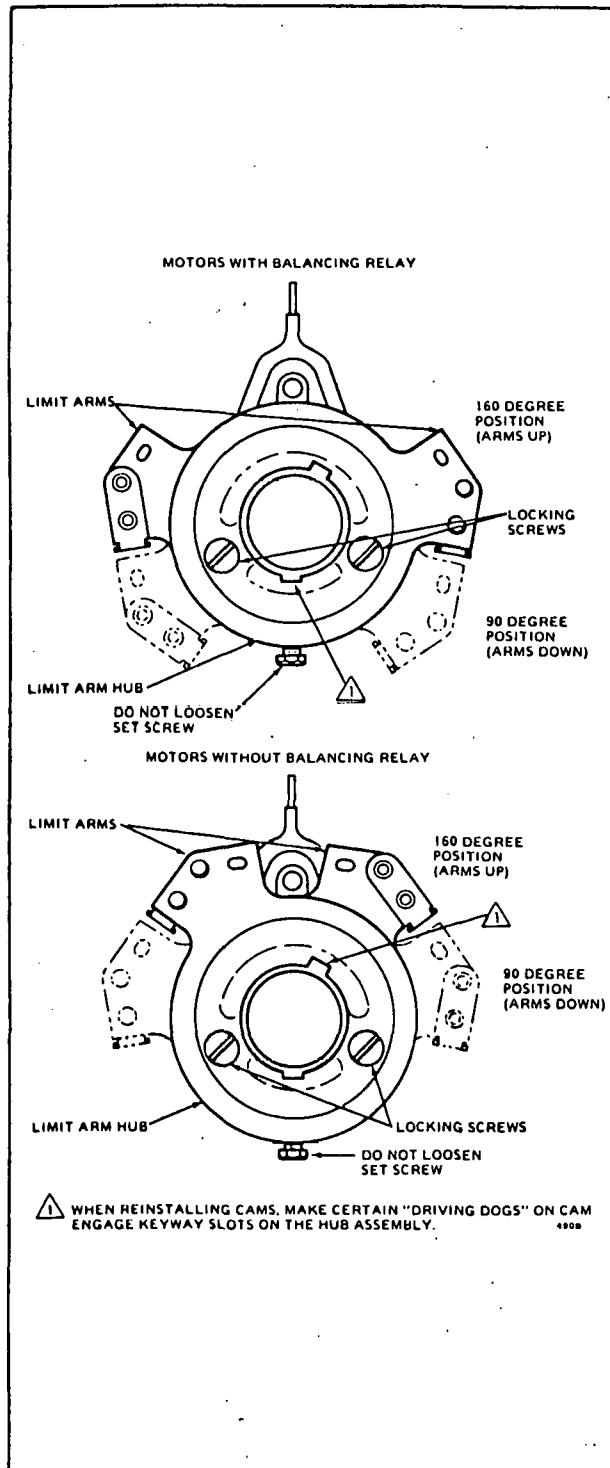

FIG. 13-CHANGE THE POSITIONS OF THE LIMIT ARMS TO ADJUST THE MOTOR STROKE.
2. Loosen the 2 screws in the limit arm hub (Fig. 13). Set the arms at either extreme of their travel. With both arms up, the stroke will be 160 degrees; with both arms down, the stroke will be 90 degrees. Retighten both screws.